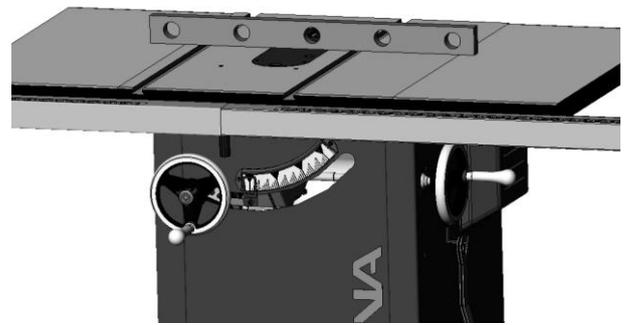

Fig. 9
8. Use a straightedge to determine whether the insert is level with the table top [see Fig.9]. To adjust, turn each of the 5 adjusting screws with the allen wrench until level.